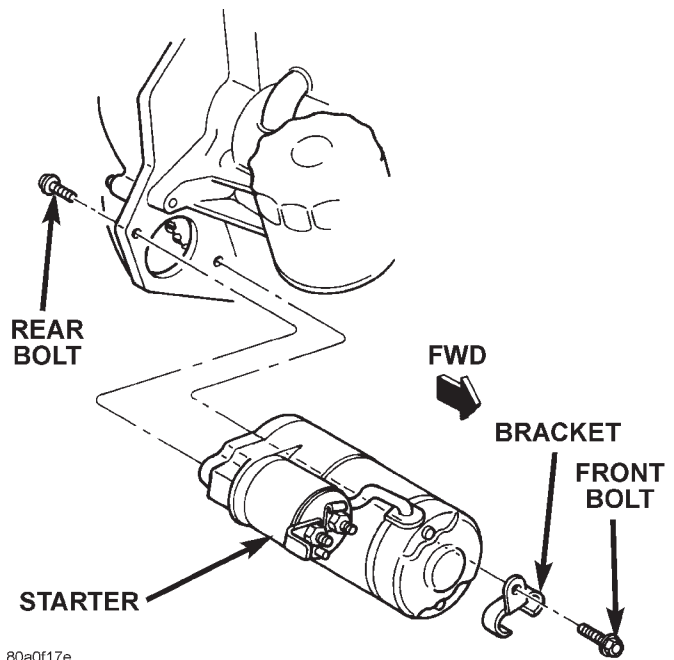

Fig. 11 Starter Remove/Install - 4.0L Engine
(4) Remove the front starter mounting bolt and the automatic transmission oil cooler line bracket (Fig. 11).